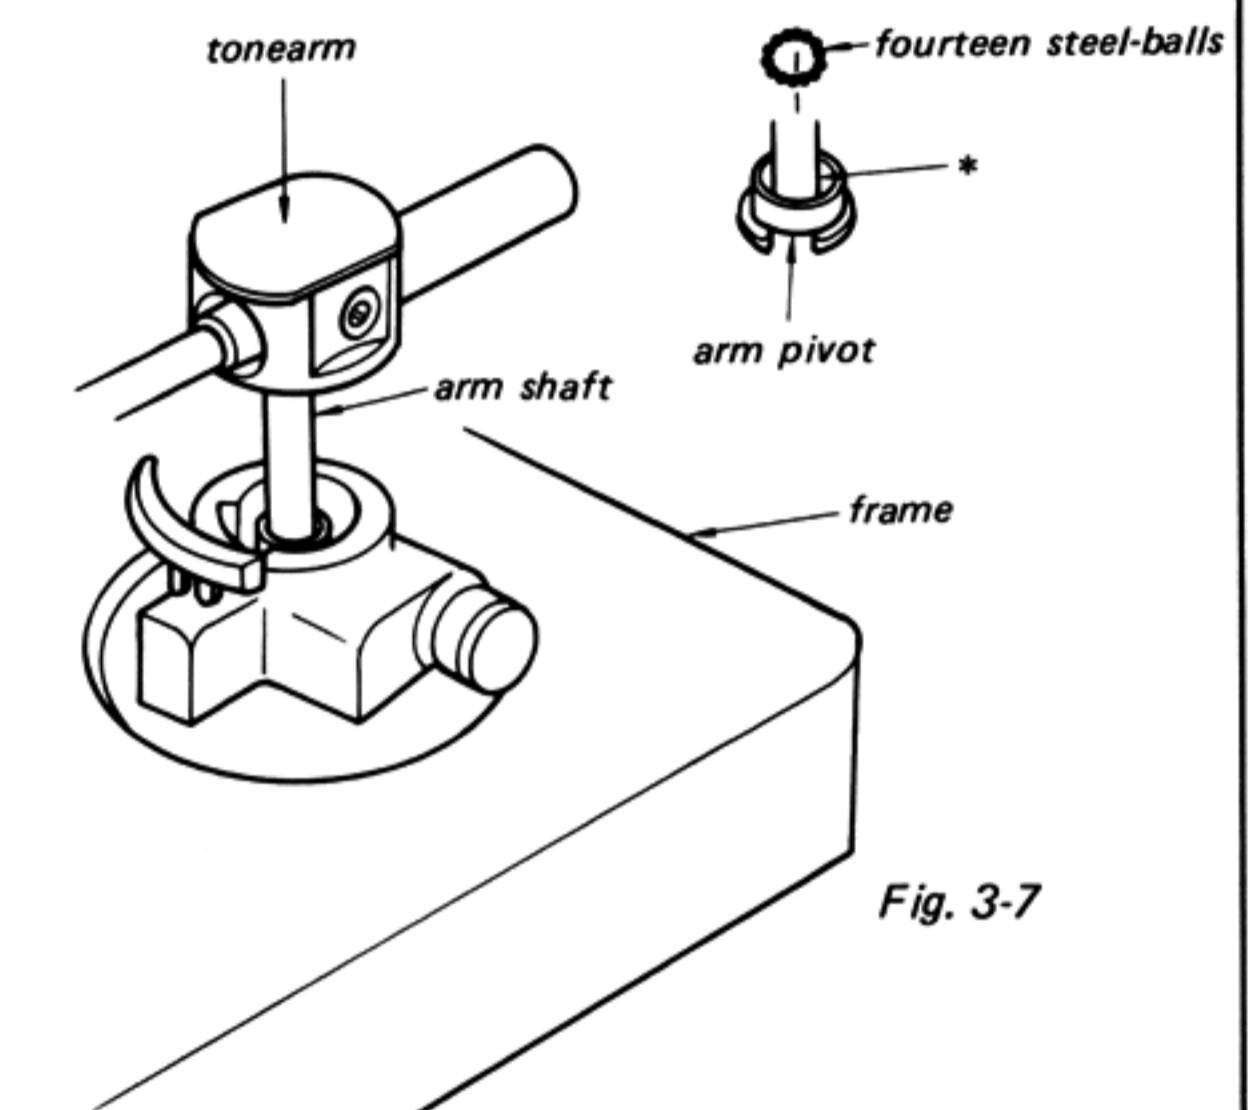

Fig. 3-7
- Clean the portion of the arm pivot marked by * in Fig. 3-7 with an alcohol-moistened swab.